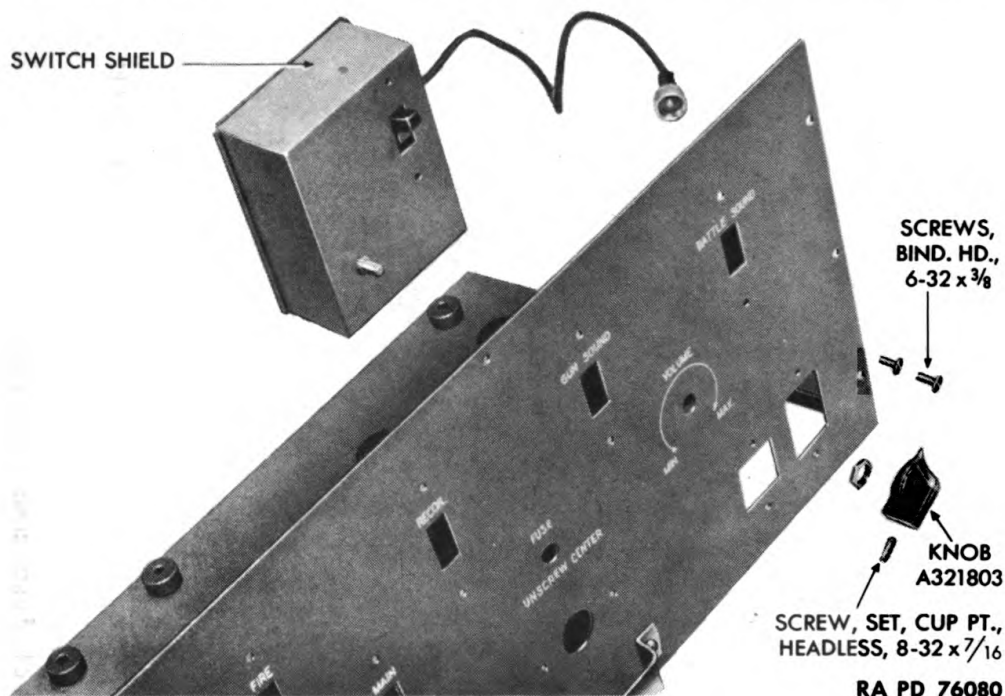

Figure 49 — Control Panel — Battle Sound Switch and Volume Control Removed
(20) Remove the set screws in the volume control knob (fig. 49) and pull the knob from the shaft. Unscrew the hexagonal nut and the two binding head screws holding the switch shield to the control